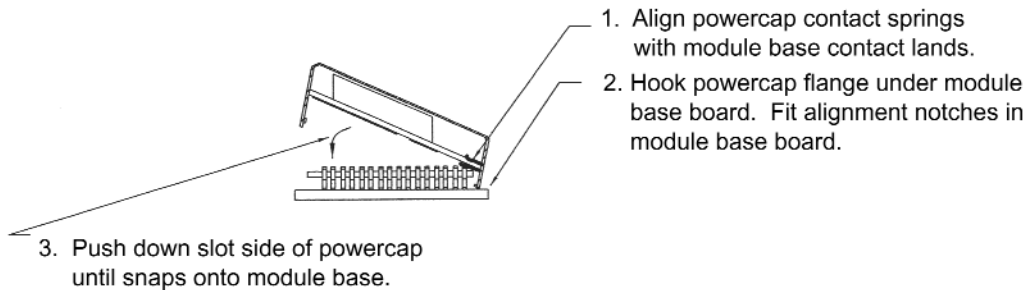

Figure 2
7. Remove the replacement powercap from the anti-static bag and install it on the component base, as described in figure 2.